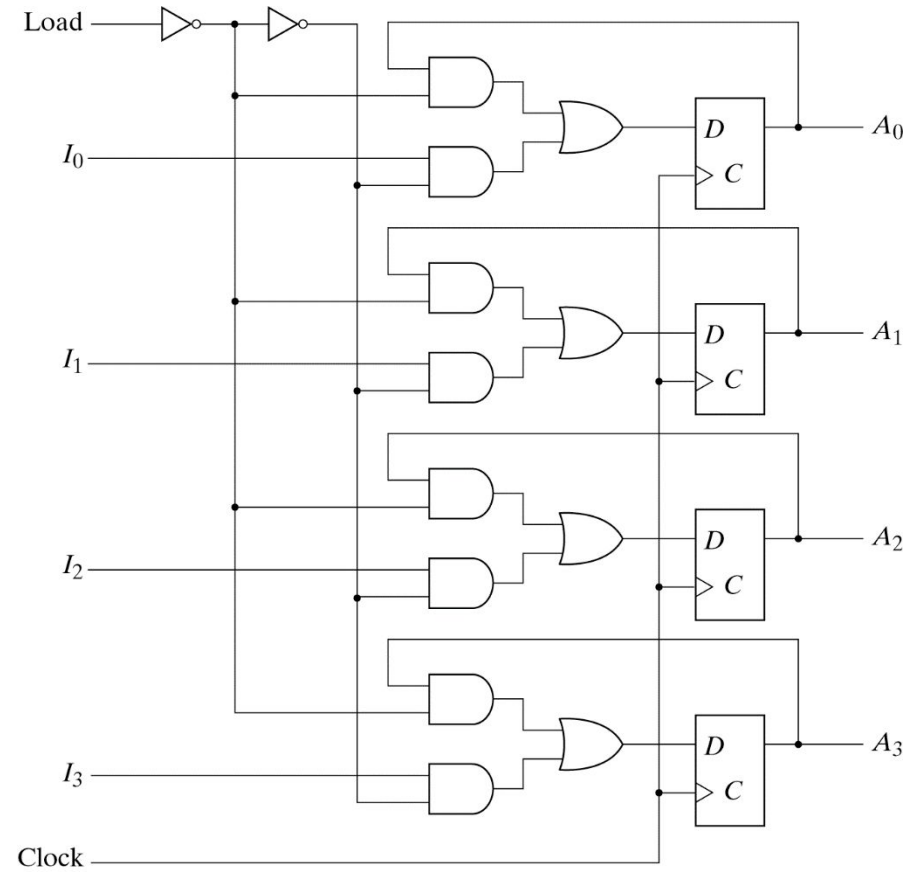

Fig. 6-2 4-Bit Register with Parallel Load
- A 4-bit register with a load control input that is directed through gates and into the D inputs of the flip-flops is shown in Fig. 6-2.